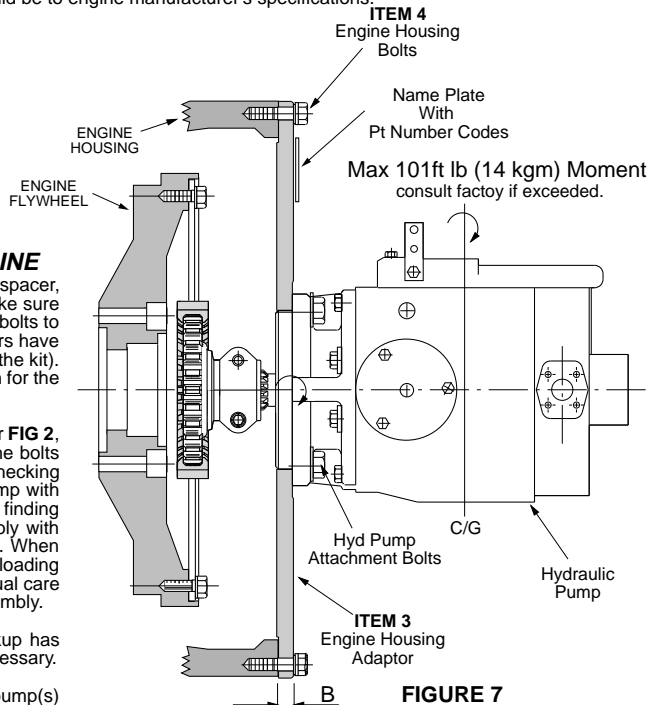

FIGURE 7
STEP 6. Refer to FIG 7. Item 3, the engine housing adaptor is made of steel. The spacer, if required, is made of cast iron. Before assembly of the housing to the engine make sure that the intersecting faces and pilots of both engine and adaptor are clean and the bolts to be used are the correct size, thread and length for the application (housing adaptors have UNC tapped holes for pump mounting, pump mounting bolts are not supplied with the kit). Also, ensure that when assembled the housing will be in the correct rotated position for the pump ports, controls etc. to face as you require.